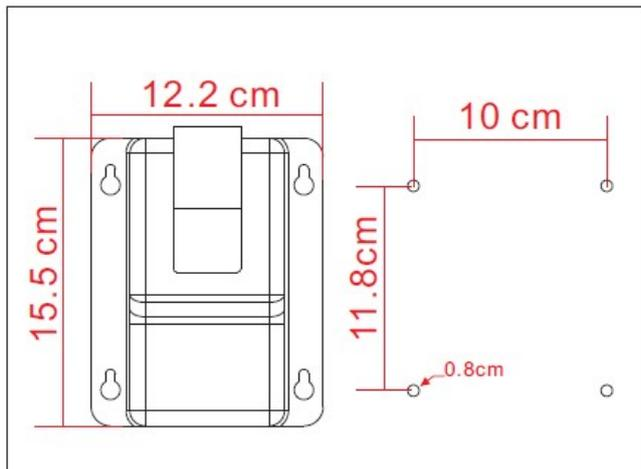

Figure 1
Select an appropriate location (consider Power Cord length) and fix the Base onto a strong wall with the 4 provided ST5\*32 Expansion Bolts, you will first need to drill holes in the wall that match the holes in the Base. If the power cord is hanging loose between the fan and the power outlet, make sure it cannot touch or obstruct fan blade rotation or fan oscillation at any time. (Figure 1 & Figure 2)
2. Align the Rear Grille on the Motor Housing, ensure that the grip is at the top. Then fix the rear grille in place using the 4 x Rear Grille Locking Screws (Figure 1).